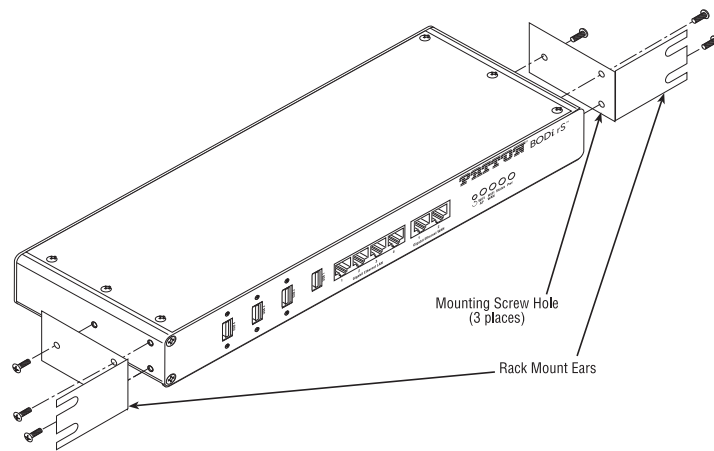

Figure 1. Mounting BODi rS in a rack
1. Insert the female end of the AC power cord into the internal power supply connector (see Figure 1 on page 4).
3. Set the I/O power switch (see Figure 1 on page 4) to I (on).
BODi rS can be mounted in a rack using the attachable rack mount ears (see **Figure 1**). Align the rack mount ears with the three holes on each side of the device. Place screws through the mounting holes and secure to the device. Place the device in a rack and secure using the open slots on the rack mount ears.